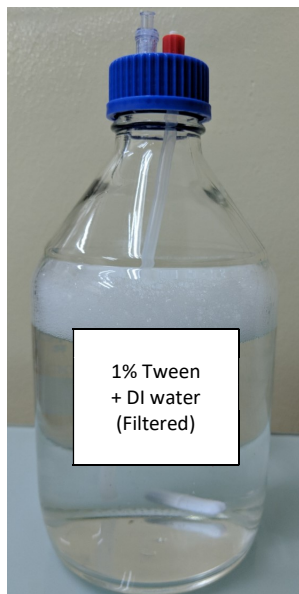

Figure 3-3: Buffer inlet bottle cap connected to 2L bottle containing wash buffer of choice.
2. Connect a buffer inlet bottle cap onto a 2L glass bottle containing the wash buffer of choice, as shown in Figure 3-3 below.